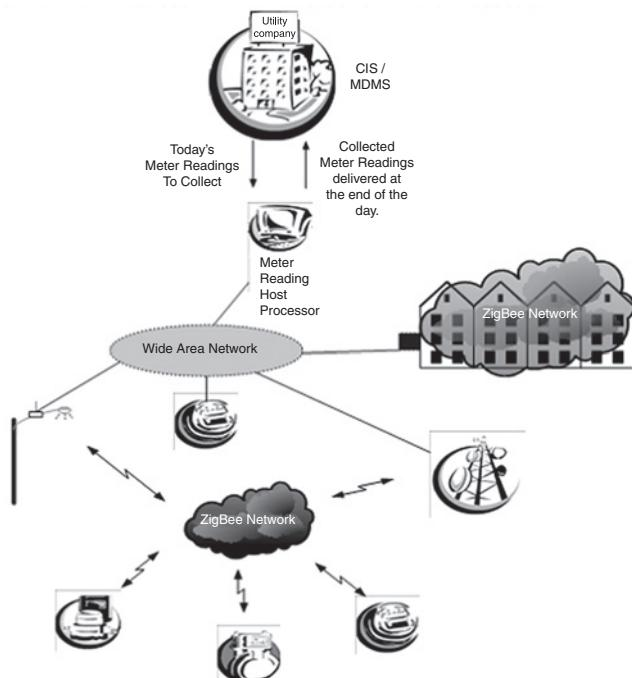

Figure 9.3: AMR Gateway
The other gateway required in the AMR system is the one from ZigBee to ZigBee. The AMR system, in addition to reading the meter, may need to monitor or control a Home Automation (HA) or Commercial Building Automation (CBA) network. That home network isn't likely to be part of the AMR network, but a stand-alone network that the home owner controls. To connect to that network in a way that allows for the disparate security protocols (light security in HA, heavy security for AMR), two separate networks are used (see Figure 9.3).